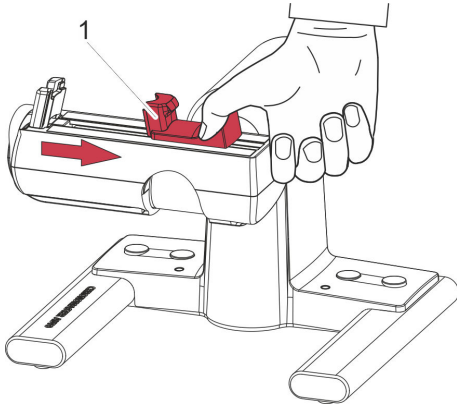

Fig. 18: Tightening the clamping jaws
1. ➤ Pull the clamping jaw (Fig. 18/1) outwards and hold it.